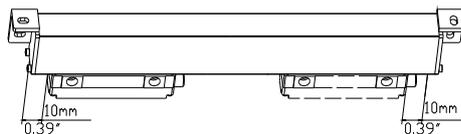

Figure 4.1
1. The effective movement of the linear scale should be larger than the maximum travel of the worktable. If it is not long enough, change a longer one or install fixing blocks on the worktable. Not less than 10mm space should be spared between the end of the Read Head and the body of the scale.(Figure 4.1)